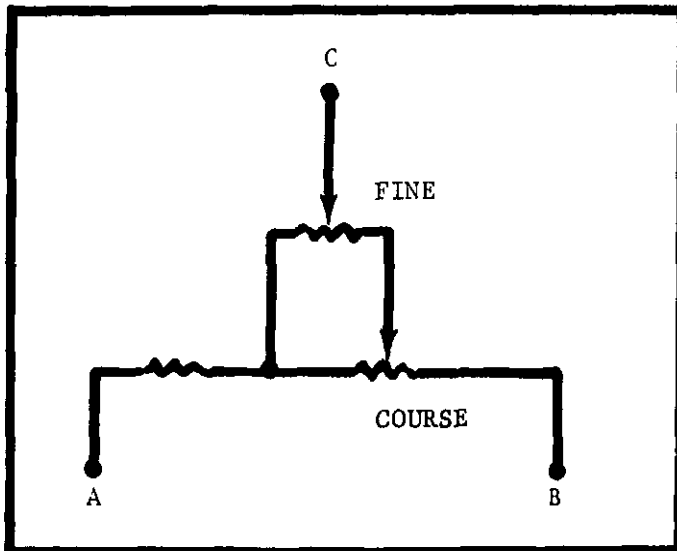

FIGURE 18. Remote Mounted Coarse and Fine Zero Control. Letters refer to terminals in Figure 2.
d. External fine and coarse zero control connections (Figure 18).
3. Connect a fine zero potentiometer as shown in Figure 18.